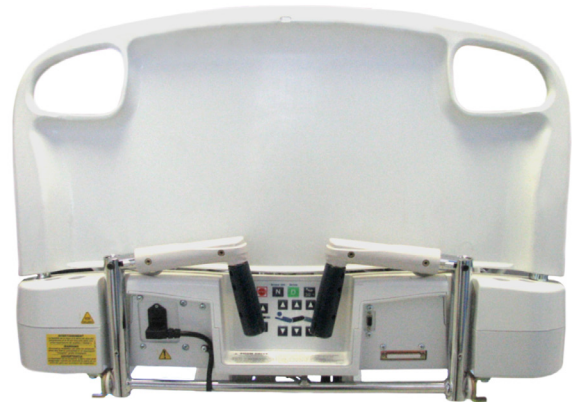

Figure 25
- Handles might be hidden in the head section (see Figure 25).